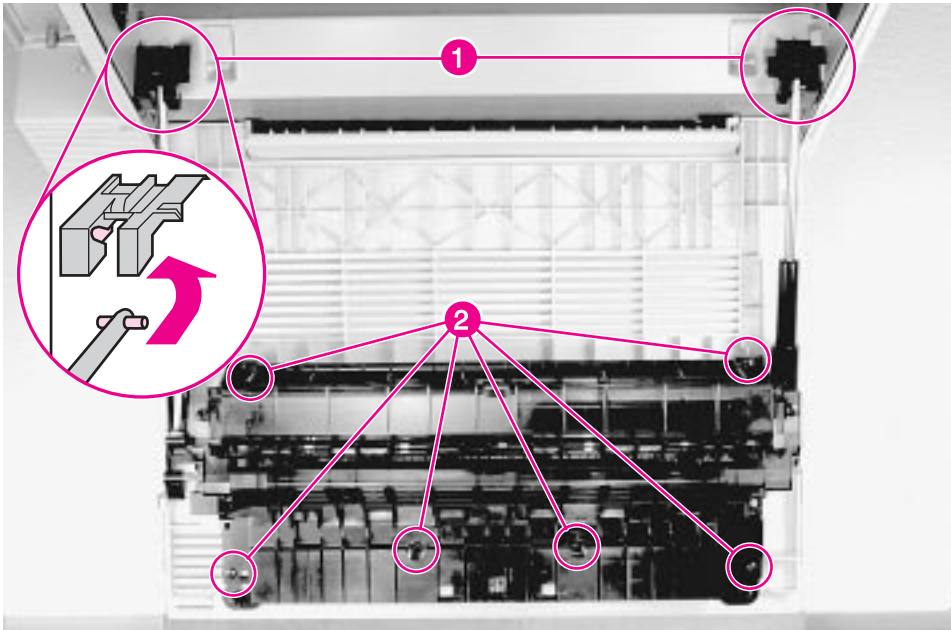

Figure 6-13 Diverter Assembly
- 1 Open the Diverter Assembly access door and release the support struts (figure 6-13, callout 1) by sliding the strut ends forward and downward.
- 2 Remove 6 self-tapping screws (figure 6-13, callout 2).